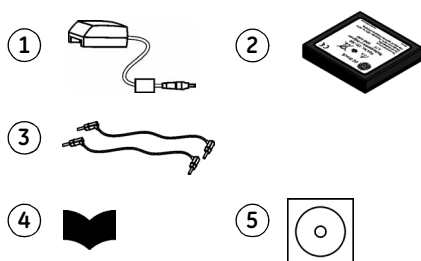

Figure 1-7: Accessories included
- Make sure that there is no damage to the instrument, and that there are no missing items; see Figure 1-7.